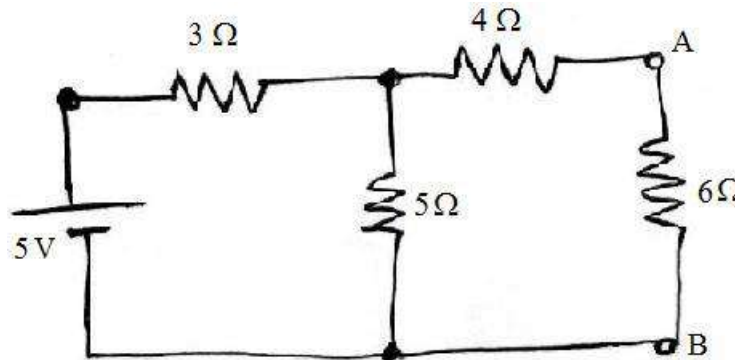

Figure 1
b) By using Thevenin's theorem shown in figure 1, find the current in 6Ω resistor. [8+7]